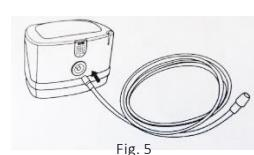

Fig. 5
2. Connect the hose to the Air outlet in the device, making sure it is attached properly. (Fig. 5)